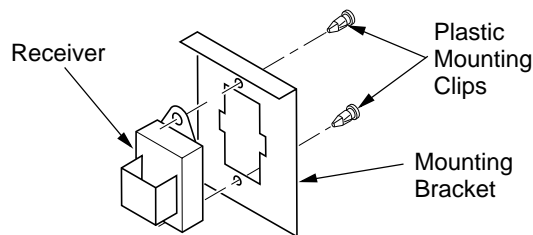

Figure 14 - Installing Remote Receiver (Shown from Rear of Mounting Bracket)
3. Install remote receiver unit onto mounting bracket using the two plastic mounting clips (see Figure 14).